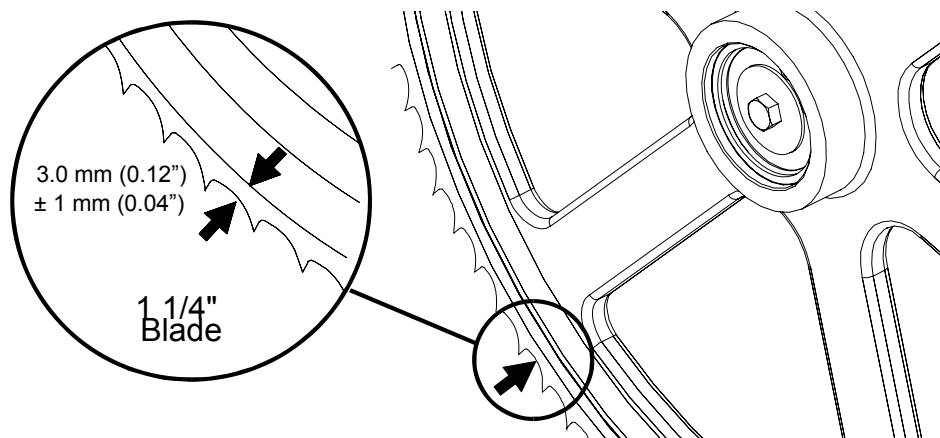

FIG. 3-7
**See Figure 3-7.** Position 1 1/4" wide blades so the gullet is 1/8" (3.0 mm) out from the edge of the blade wheel ( $\pm 1/32$  [.75 mm]).